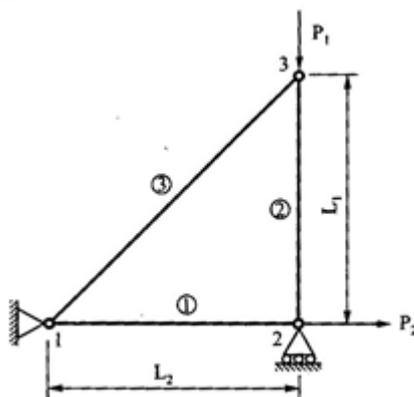

Figure 4
- (c)** A three bar truss is shown in Figure 4. The modulus of elasticity of the material is $300 \times 10^3 \text{ N/mm}^2$. The area of the bar used for the truss is 60 mm^2 for all the elements. The length $L_1 = 750 \text{ mm}$ and $L_2 = 100 \text{ mm}$. The load $P = 20 \text{ kN}$ and $P_2 = 25 \text{ kN}$. Determine the element stiffness matrix for each element and the global stiffness matrix. **07**